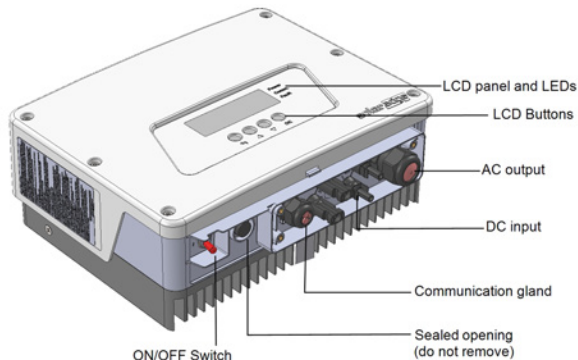

Figure 5: Inverter Interfaces
4. Open the AC cable gland and insert the cable through the gland (see *Figure 5*).